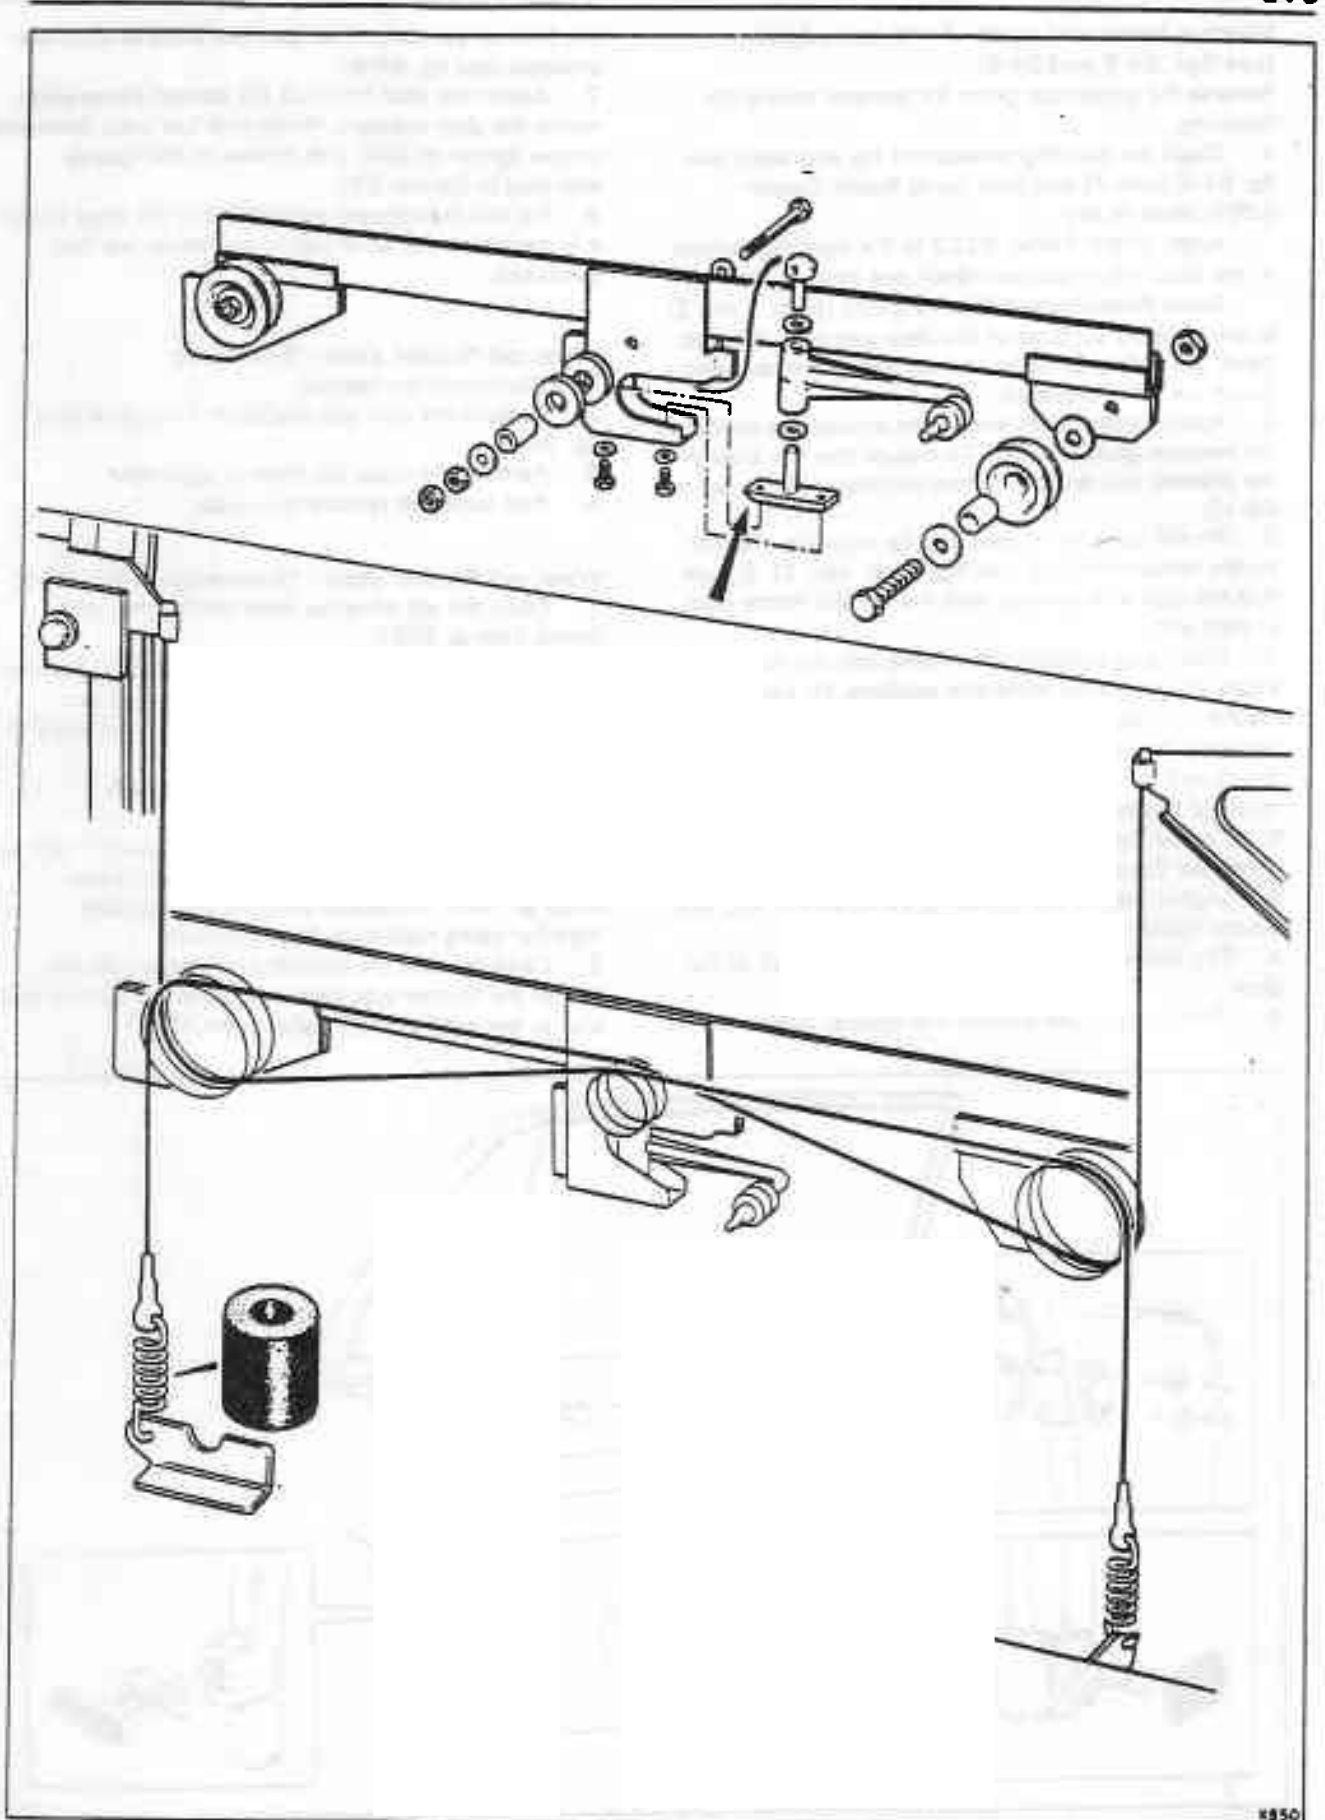

Fig. S4-7 Wire guidance assembly and window glass channel
6. If necessary, remove the swinging arm and pulleys from the glass channel (see fig. S4-7).
3. Fit the swinging arm assembly to the glass channel (see fig. S4-7). A minimum of two nylon washers should be used, one each side of the swinging arm. If required, further washers should be added in order to eliminate any end-float of the arm.
The lower pivot block is chamfered on one end. Position the chamfer as shown in figure S4-7 (arrowed).
4. Fit the large pulleys at each end of the window channel (see fig. S4-7).
7. When fitting the wires refer to figure S4-7. Ensure that the rubber sleeves are fitted over the lower springs.